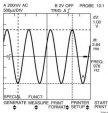

Figure 4.13 Generator produces sine wave signal
- L. The ScopeMeter display will look like figure 4.13. The generator must produce a sine wave signal with an amplitude of 1V and a frequency of 576 Hz (typical values).